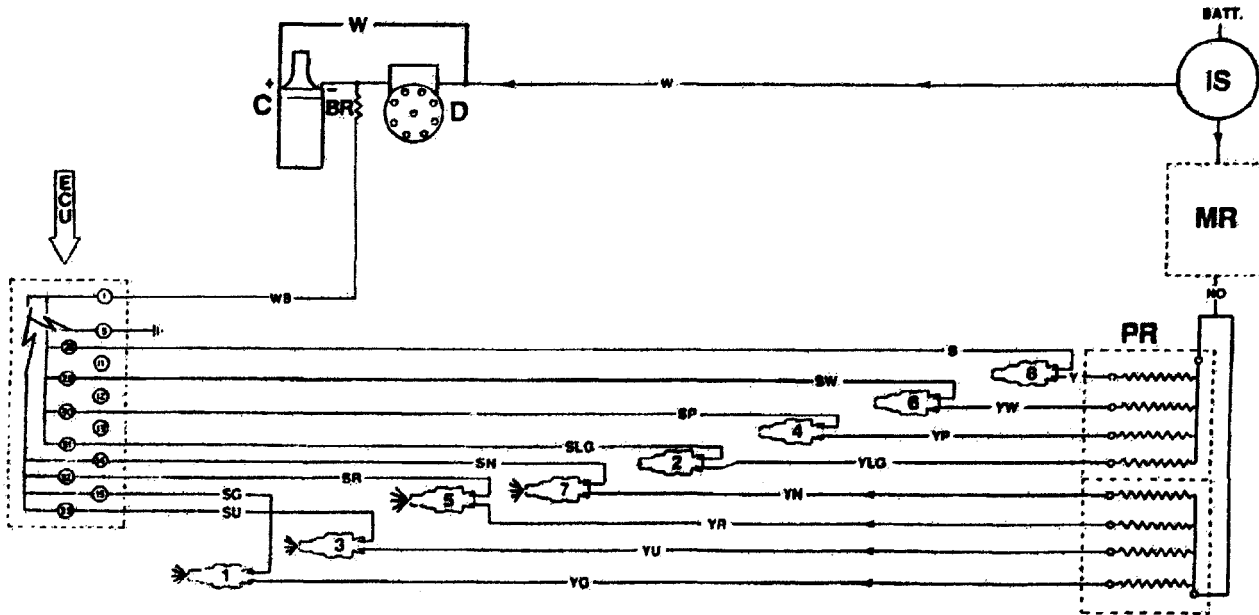

Fig.3.8
The injectors that inject fuel into the engine are opened by internal solenoids. Current comes from the ignition switch and Main Relay (MR) terminal 87 via two resistor modules inside the Power Resistor pack (PR) (fig.3.8). Current is available when the ignition is turned on.